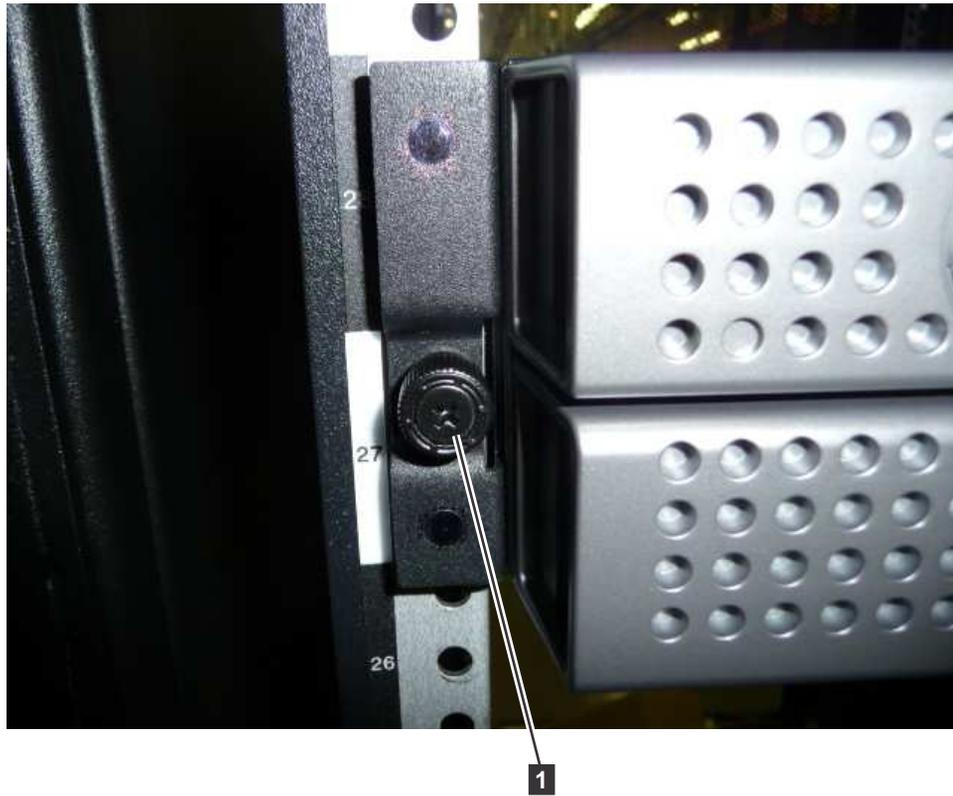
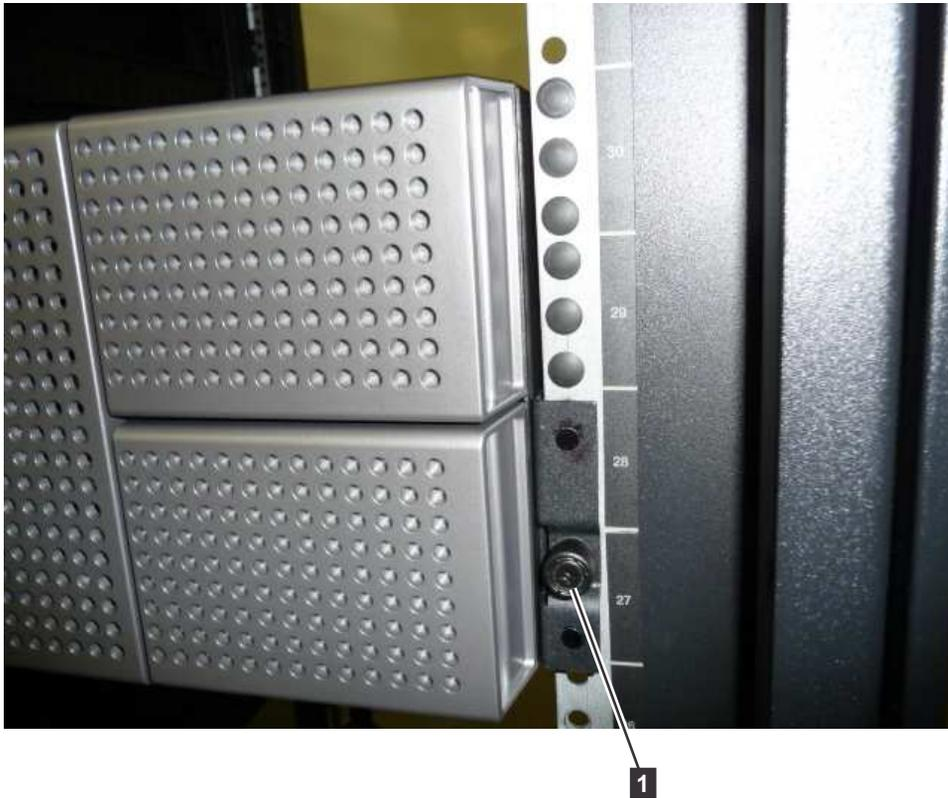

Figure 35. Securing the 2U library to the rack
Figure 36. Securing the 4U library to the rack
8. Using a #2 Phillips screwdriver, secure the library to the rack (see Figure 35 on page 51 or Figure 36 on page 52) by placing a screw in the center hole of each
9. Install either the round or the square rack hole covers for the 4U library as shown in Figure 36. There are 6 covers for each side for a total of 12.